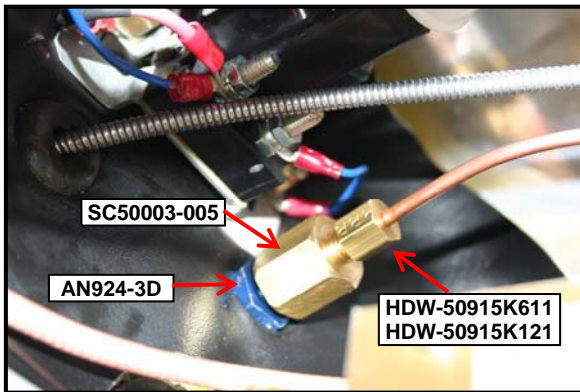

Figure 6 - Firewall Compression Fittings
14. Slide the compression fitting sleeve (HDW-50915K611) and compression fitting nut (HDW-50915K121) over the copper tubing on the aft side of the firewall (see Figure 6).